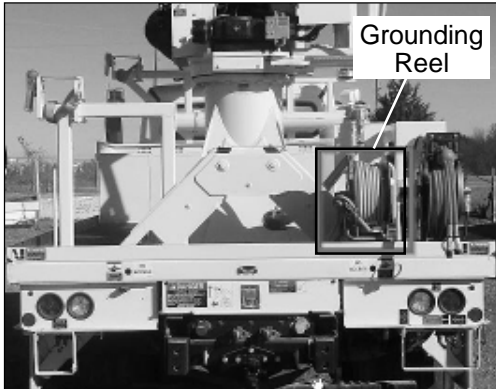

Figure 1 — Grounding Cable Reel
2. The grounding reel is usually located near the rear of the chassis. Find the grounding reel and the grounding cable that is attached to the side of the grounding reel to the multi-point grounding system under the chassis (refer to Figures 1 and 2).